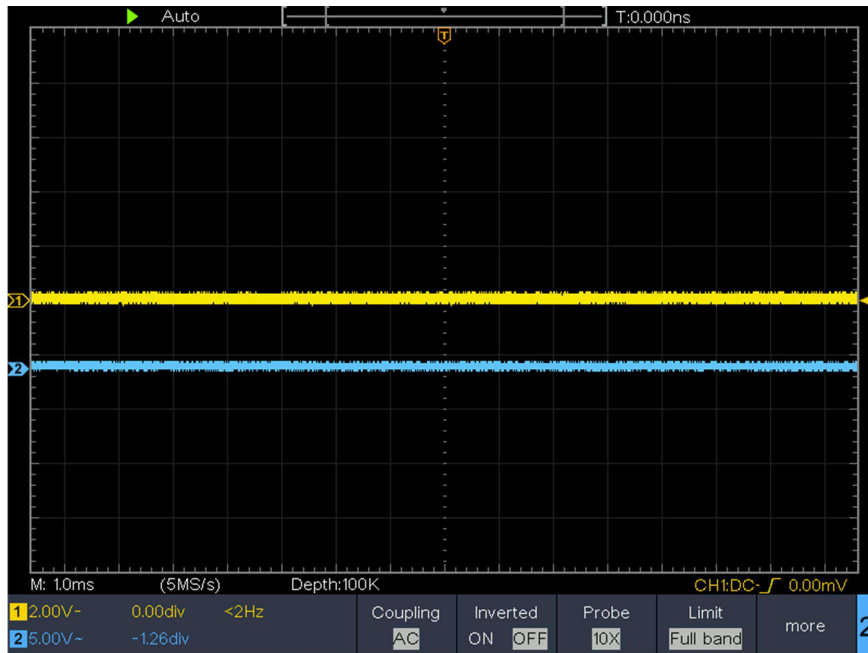

Figure 6- 2 Waveform of Gain Measurement
- (1) Push the **Autoset** button and the oscilloscope will automatically adjust the waveforms of the two channels into the proper display state.
- (2) Push the **Measure** button to show the Measure menu.
- (3) Select **Add** in the bottom menu.
- (4) In the right menu, select **CH1** in the **Source** menu item.
- (5) In the left Type menu, turn the **M** knob to select **PK-PK**.
- (6) In the right menu, select **Add**. The peak-to-peak type of CH1 is added.
- (7) In the right menu, select **CH2** in the **Source** menu item.
- (8) In the left Type menu, turn the **M** knob to select **PK-PK**.
- (9) In the right menu, select **Add**. The peak-to-peak type of CH2 is added.
- (10) Read the peak-to-peak voltages of Channel 1 and Channel 2 from the bottom left of the screen (see Figure 6- 2).
- (11) Calculate the amplifier gain with the following formulas.